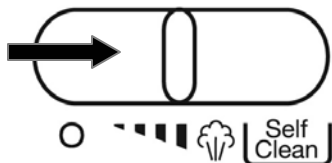

Fig. 3
5. Slide the variable steam control to the right to increase the amount of steam. (Fig. 3) When using extra steam, the iron uses more water and it may be necessary to fill the tank more often. See page 4 for refilling the iron with water.
3. Position variable steam control to the burst of steam position. (Fig. 3)